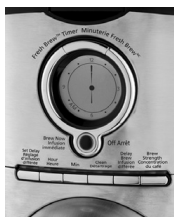

Figure 6
1. After completing the steps in the **Adding Water and Coffee** section and with the glass decanter and the filter basket securely in place, turn the coffeemaker on by pressing the **BREW NOW** button once. The **BREW NOW** blue light will turn on to signal that the coffeemaker is on and brewing (Figure 6).